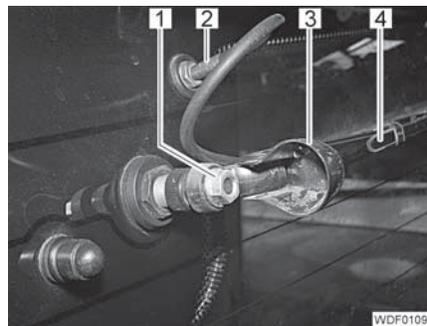

Fig. 370 Rear windshield wiper arm
- Pull off the hose (Fig. 370,2) of the windshield washer system.
- Fold the cap (Fig. 370,3) away from the fastening.
- Undo the nut (Fig. 370,1).
- Press the windshield wiper arm (Fig. 370,4) against the nut with a lever.
- Screw the nut (Fig. 370,1) onto the bolt and tighten it.
- Fold the cap (Fig. 370,3) over the nut.
- Attach the hose (Fig. 370,2) to the connection at the top edge of the windshield.